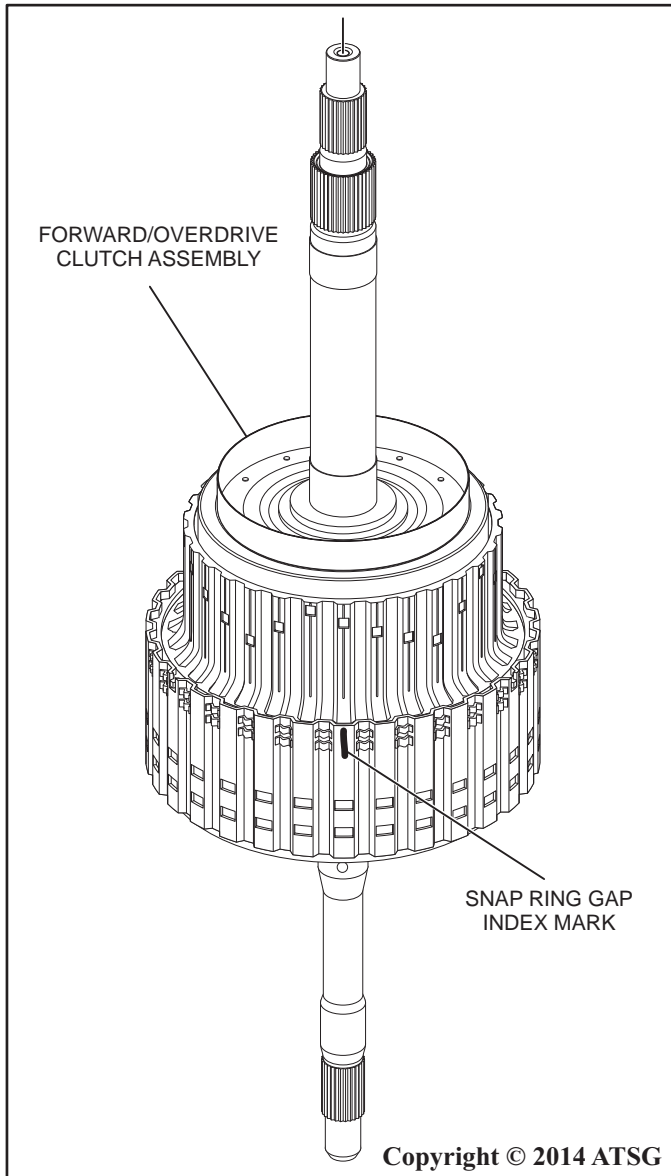

Figure 70
1. Make a painted index mark on the forward clutch housing where the snap ring gap is located as shown in Figure 70.